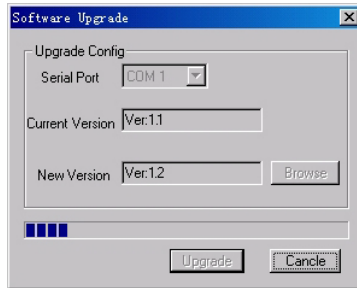

Figure 7-13 Software Upgrade
7. Click “Yes”, and the system will start to upgrade the software automatically (Figure 7-13). If you click "Cancel" when the upgrading is in process, the software in the Pulse Oximeter will be damaged. You need to upgrade the software again.